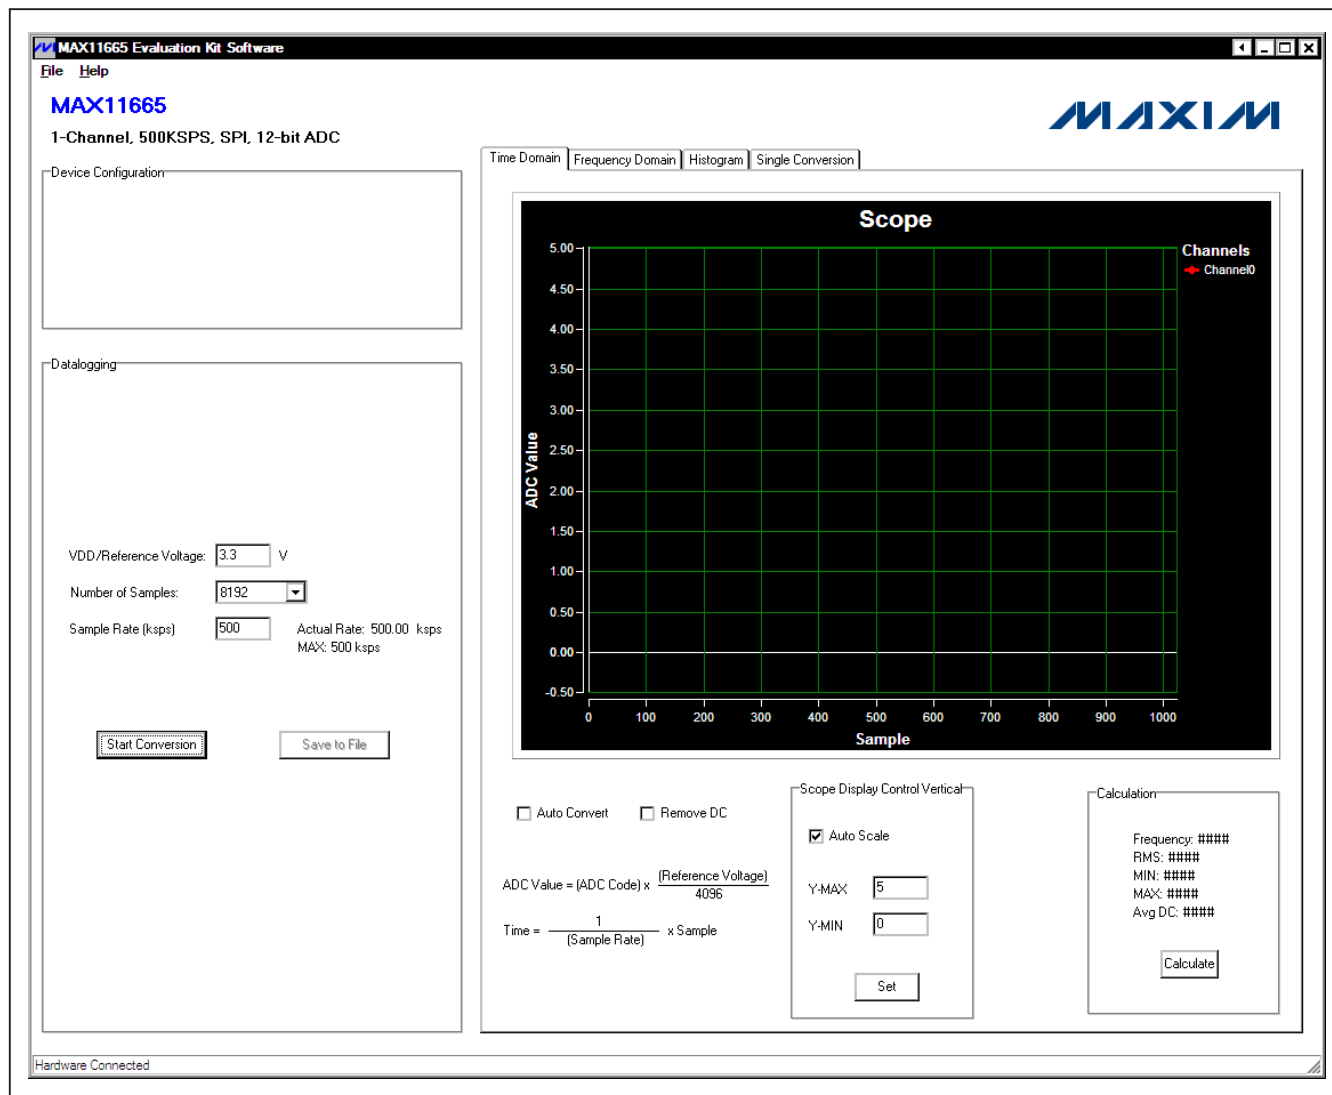

Figure 1. MAX11665 EV Kit Software Main Window
- 10) Start the EV kit software by opening its icon in the Windows **All Programs** menu. The EV kit software main window appears, as shown in Figure 1.
The main window of the evaluation software (Figure 1) contains a **Datalogging** group box and four tabs to display the sampled data.